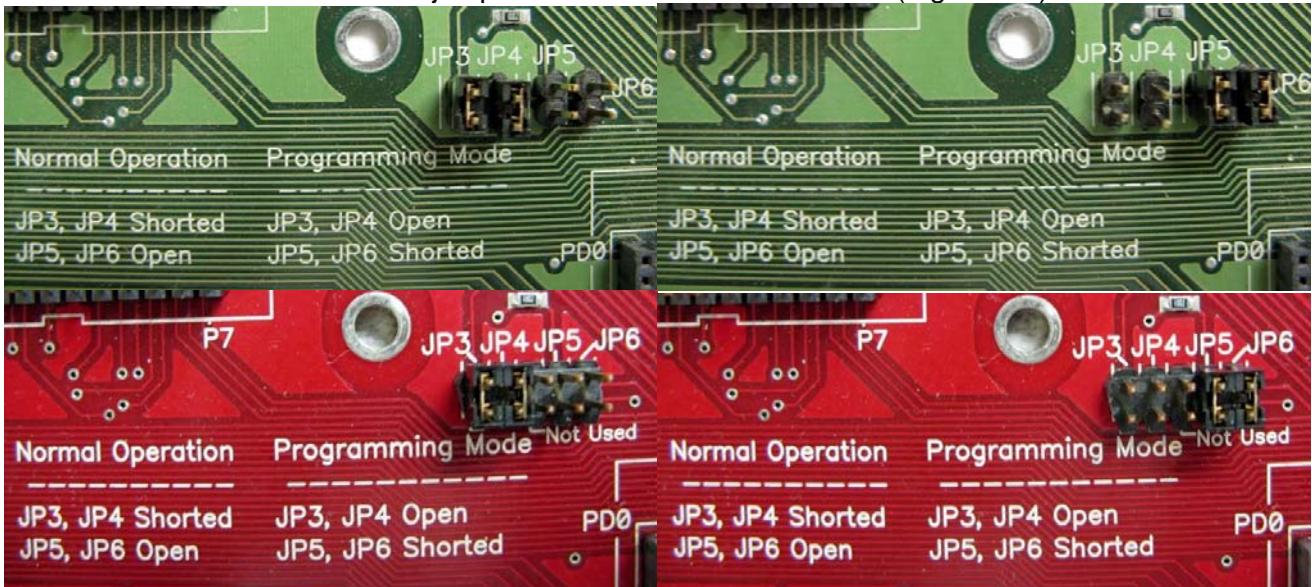

Figure 2-4. Jumpers on Rev 2 (top) and Rev 5(bottom). Normal operation (left) an Programming Mode (Right)
2. On the main board move the jumpers from J3 & JP4 to J5 & JP6 (Figure 2-4).
2. On the board move the jumpers from J5 & JP6 back to J3 & JP4 (Figure 2-4).